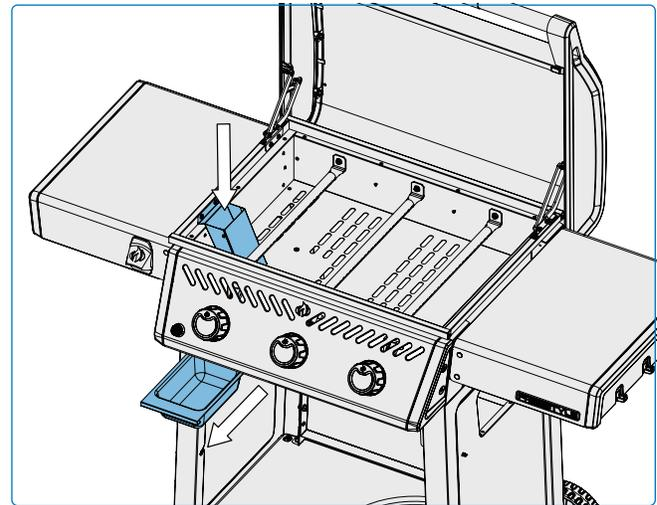

Fig. 11
1. Once the appliance has cooled completely, carefully remove the drip tray straight out from the appliance cart without tilting. **(Fig. 11)**.